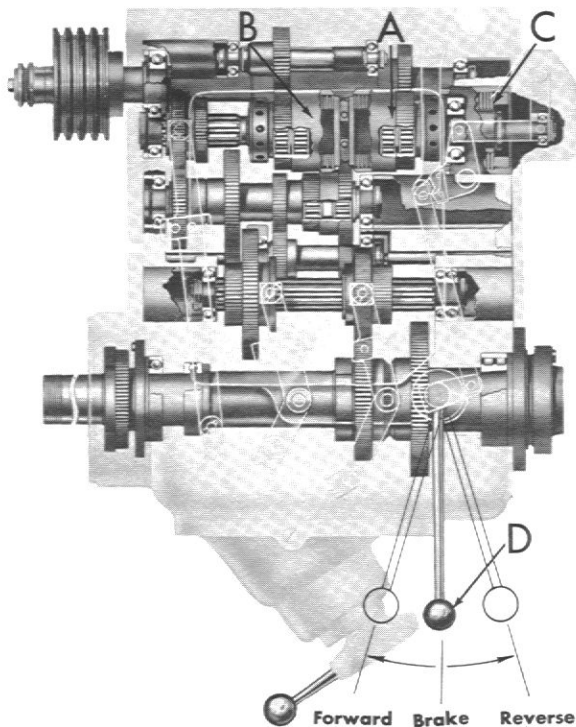
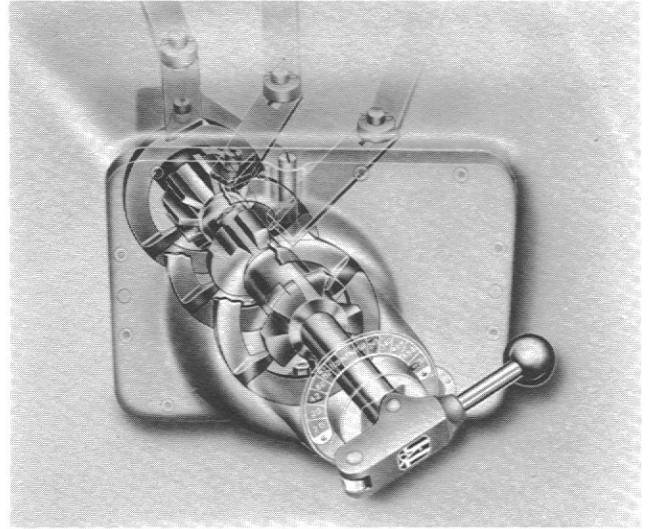

Figure 11
Figure 13
1. Move lever D to its center position as shown in figure 11 for spindle brake.
Forward clutch A and reverse clutch B (shown in figure 11) are disengaged leaving the main drive shaft free to turn without driving the transmission. Brake clutch C shown in figure 11 is engaged to stop the transmission and spindle rotation.
The cams pivot the selector yokes shown in figure 13 to shift the transmission gears through levers. The shifter levers are shown in phantom in figure 11.